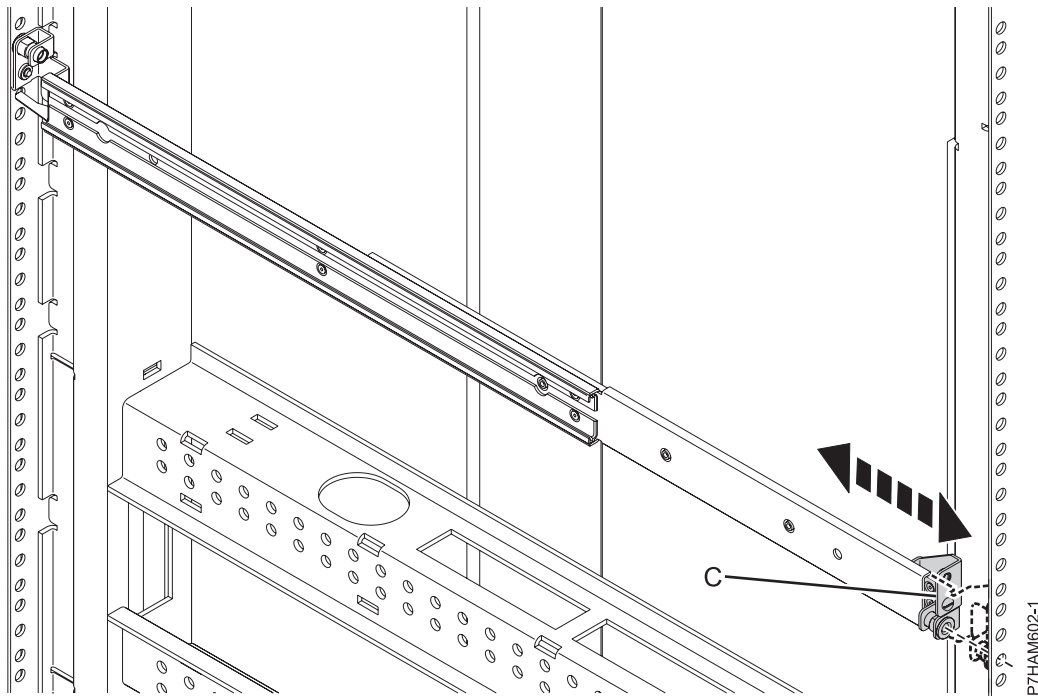

Figure 9. Expanding the rail to the rear of the rack
- d. At the rear of the rack, locate the two marks that you made previously on the EIA strips. Compress the rail (C) as shown in Figure 9, and then expand the rail carefully toward the marks until the rail end meets the rear rack flange.